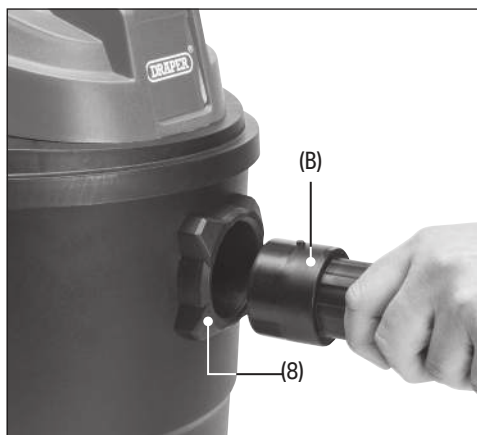

Fig. 3
3. Refit the motor housing (4) and secure using the two retaining clips (5).
4. Push the flexible hose (B) into the port (8), align the notch with the arrow on the port housing. Then turn anticlockwise to lock in place. (Fig. 3).